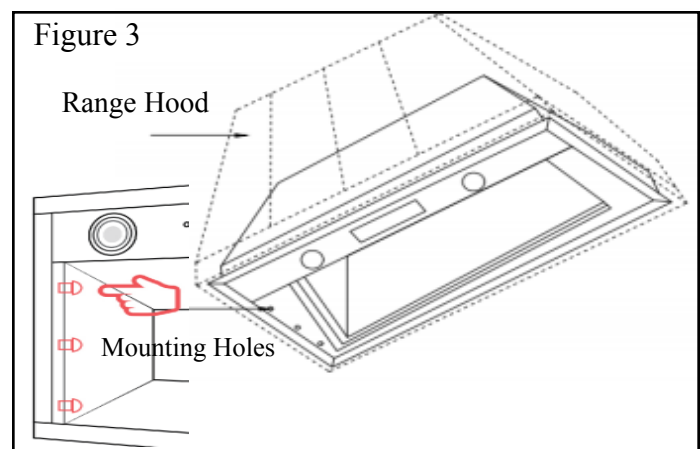

Figure 3
3. Install screws through the pre-drilled EZ mount holes into the decorative hood structure. Tap chrome cap into EZ mount holes for flush appearance. See Figure 3.